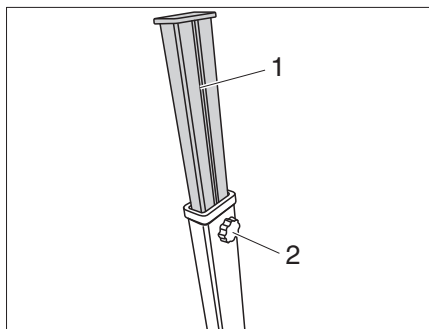

Fig. 37 Adjusting the table feet
- Open the star screw (Fig. 37,2) of the respective table foot and pull out the extension (Fig. 37,1).
- Tighten the star screw (Fig. 37,2) once the desired extension has been reached.
- Push the extension (Fig. 37,1) on all of the table feet and secure into place with the star screw (Fig. 37,2).